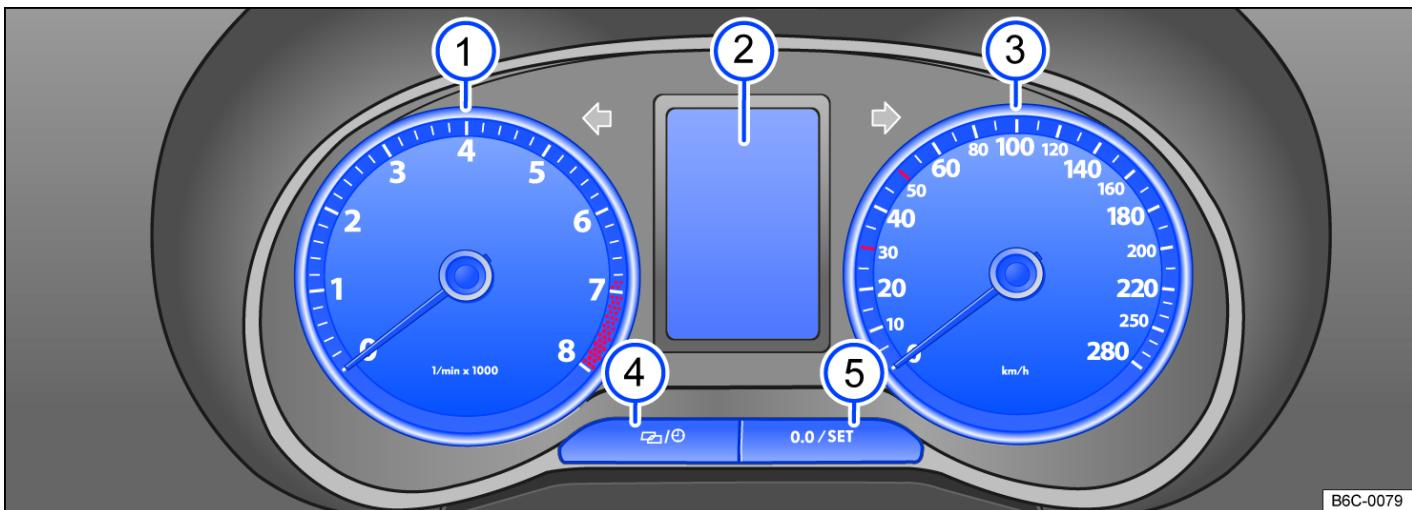
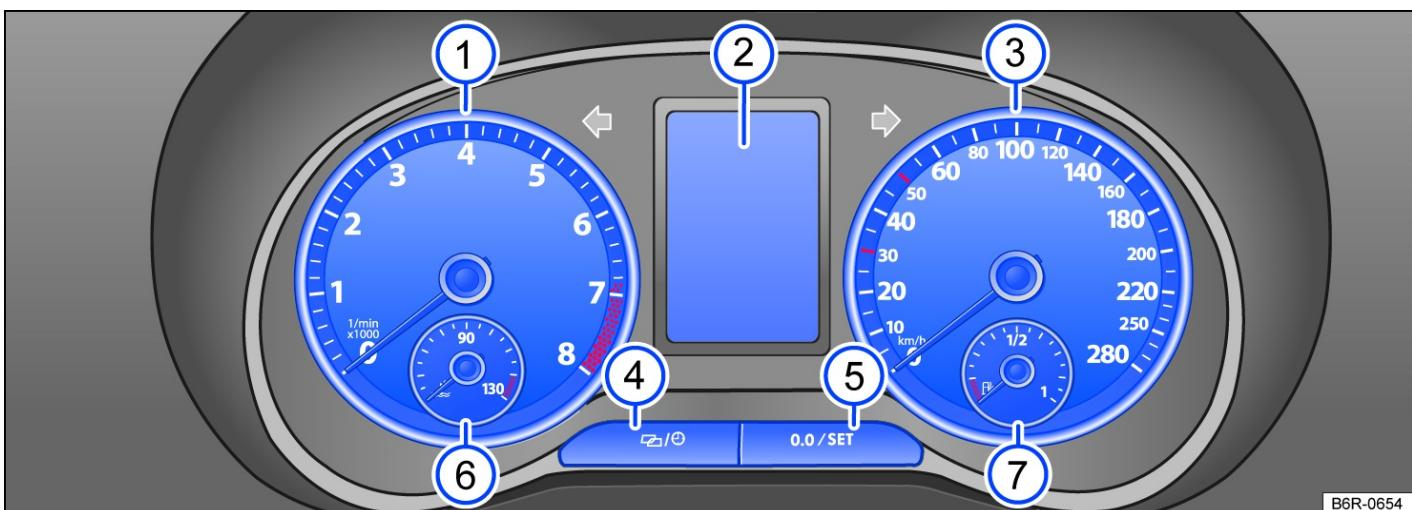

Fig. 1 Instrument cluster in the dash panel: type 1.
Fig. 2 Instrument cluster in the dash panel: type 2.
Descriptions of the instruments → Fig. 1 and → Fig. 2:
The fuel gauge is located in the lower part of the display or in the speedometer → Fig. 2 (7).